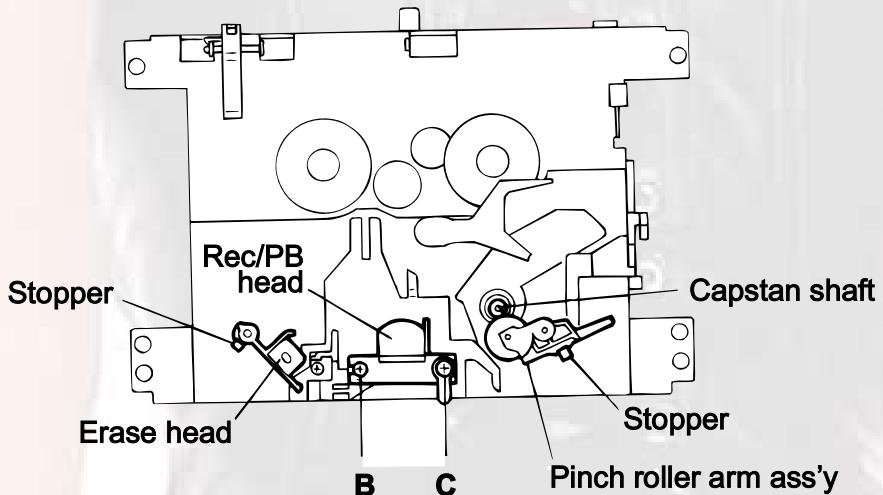

Fig.4
■ Pinch roller arm assembly (Fig.4 to 5)
■ Rec/PB head and erase head (Fig.4 to 6)